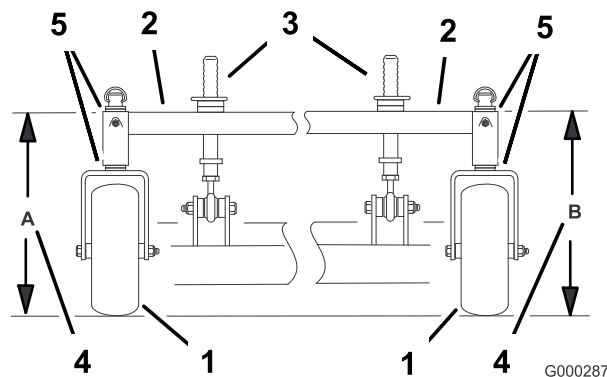

Figure 55
4. Measure carrier frame height at location **A** (Figure 55).
5. Measure carrier frame height at location **B** (Figure 55).